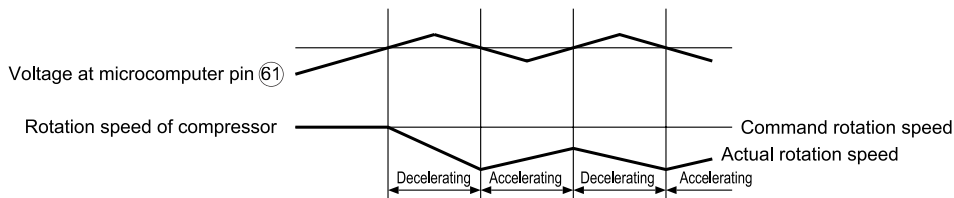

Fig. 6-6
Fig. 6-6 shows the rotation speed control. When the voltage at pin ⑥1 of the microcomputer exceeds the set value, the microcomputer decreases the rotation speed of the compressor and reduces the load.